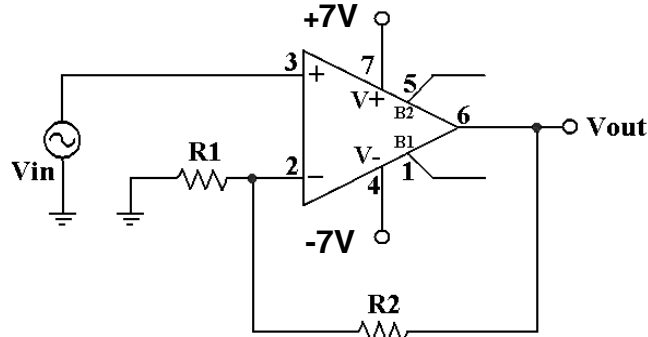
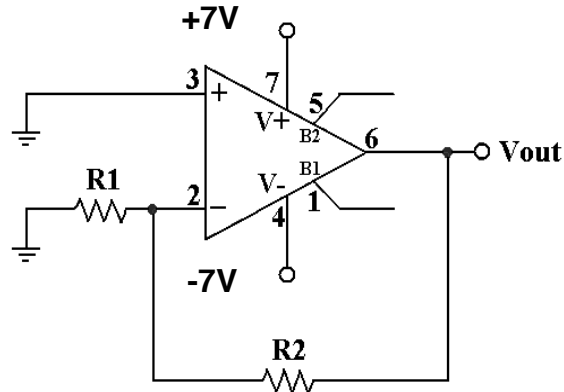

Fig. 2. Non-inverting Amplifier Configuration
Fig. 5. Offset Voltage Measurement Configuration
- For the circuit shown in Fig. 2, derive the equation for the voltage gain at low frequencies (DC gain) assuming that the Opamp is ideal.
1. Turn the power supplies off. Connect the circuit as shown in Fig. 5 with the values of  $R_1$  and  $R_2$  you calculated in the pre lab for Fig. 2. Then make sure that you have powered the chip with the dual power supply. For this measurement, the non-inverting input of the Opamp is grounded. Use the Digital Multimeter to measure the output voltage. This is the output offset voltage.
2. The input offset voltage of the Opamp can be calculated by dividing the output offset voltage by the circuit's gain, which is  $1+R_2/R_1$  for the circuit shown in Fig. 5.